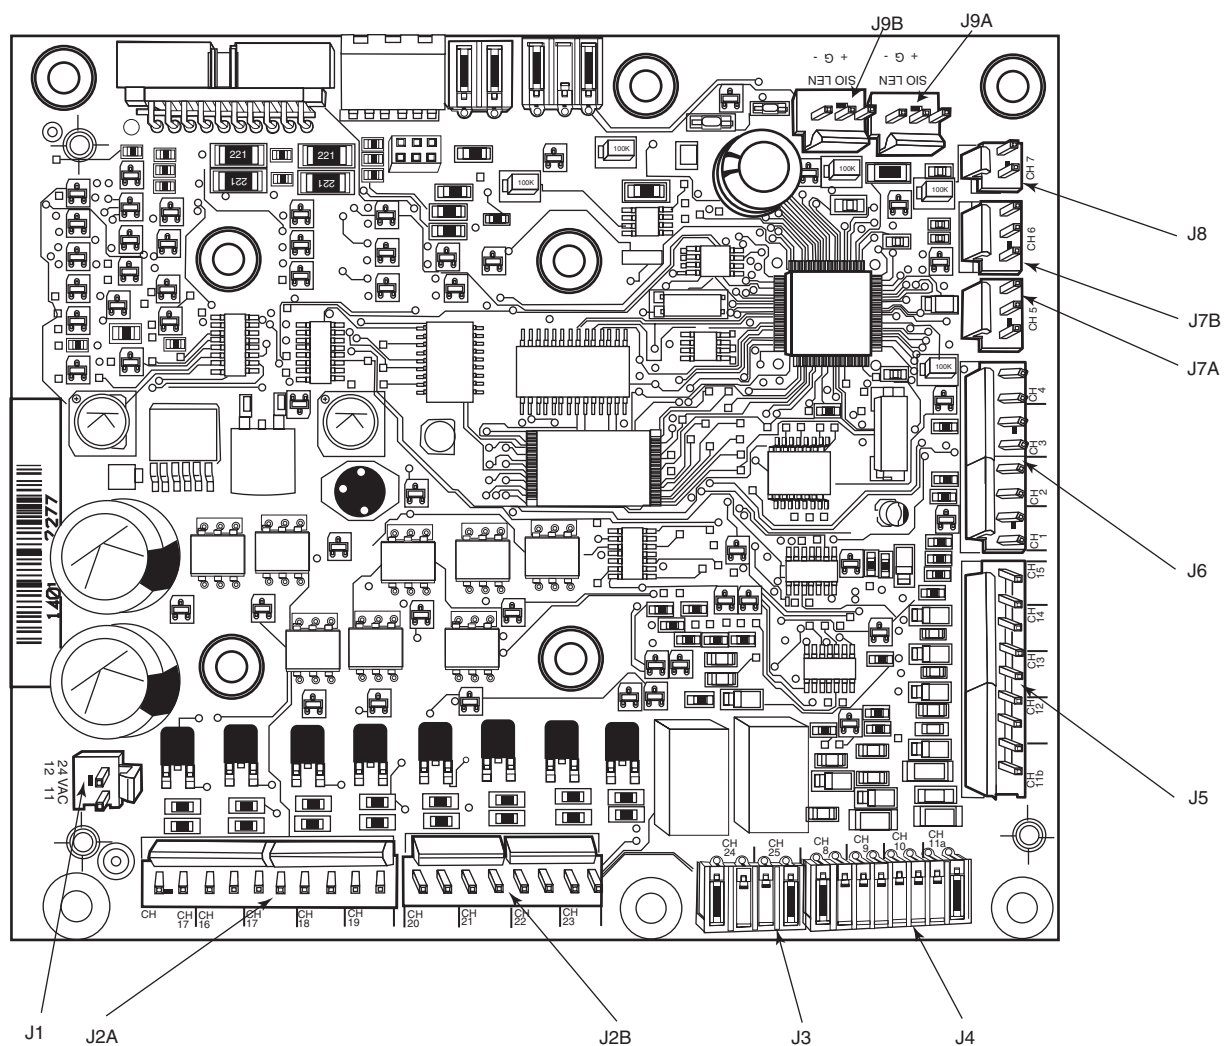

**Fig. 18 — Energy Management Module**
**Energy Management Module (EMM) —** The EMM is available as a factory-installed option or as a field-installed accessory. See Fig. 18. The EMM receives 4 to 20 mA inputs for the temperature reset, cooling set point and demand limit functions. The EMM also receives the switch inputs for the field-installed second stage 2-step demand limit and ice done functions. The EMM communicates the status of all inputs with the Touch Pilot module, and the controls adjusts the control point, capacity limit, and other functions according to the inputs received. See Table 9 for EMM board mapping.